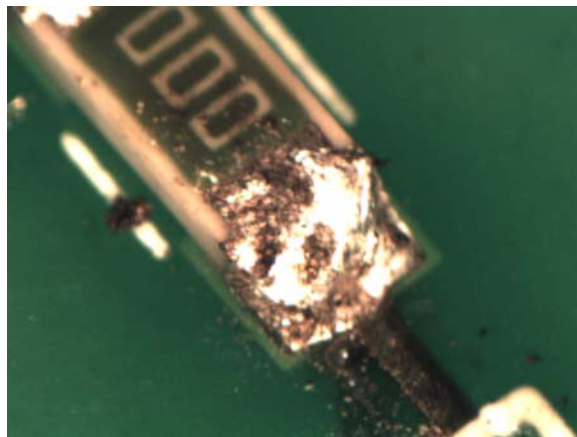

Figure 3 – Overheating & Contamination
- Overheating: Leaving the iron in contact for too much time or having too high an iron temperature can damage components and circuit boards. The burns are the easy to see defect. Less easy to detect are cracked components that can easily make it to the field before making their presence known. Component cracking is caused by thermally induced expansion mismatch (Figure 3).
- Contamination: High iron temperatures and inadequate iron maintenance can leave behind burned flux and oxidized solder. Conversion to lead free solders typically requires higher iron temperatures that aggravate flux burning. Burned flux residue can contaminate joints, causing voids and interfere with wetting by covering surfaces that should be soldered (Figure 3).